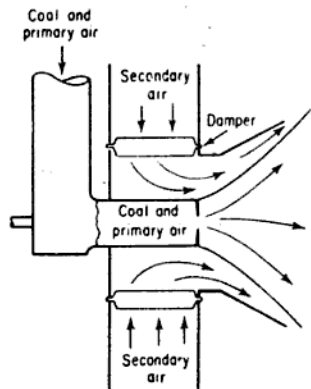

Fig. 10-7. Turbulent burner for pulverized coal.
and air. The air used to transport the coal to the burner forms the primary air; secondary air may be introduced in the burner (turbulent burners) or around or near the burner (nozzle burners). The turbulent burner (Fig. 10-7) imparts a rotary motion to (1) the coal-air mixture in a central nozzle and (2) the secondary air issuing from a chamber around that nozzle, all within the burner. This gives some premixing for coal and air, and considerable turbulence. In some burners the coal-air mixture issues from a series of nozzles to mix within the furnace with secondary air admitted through separate openings.